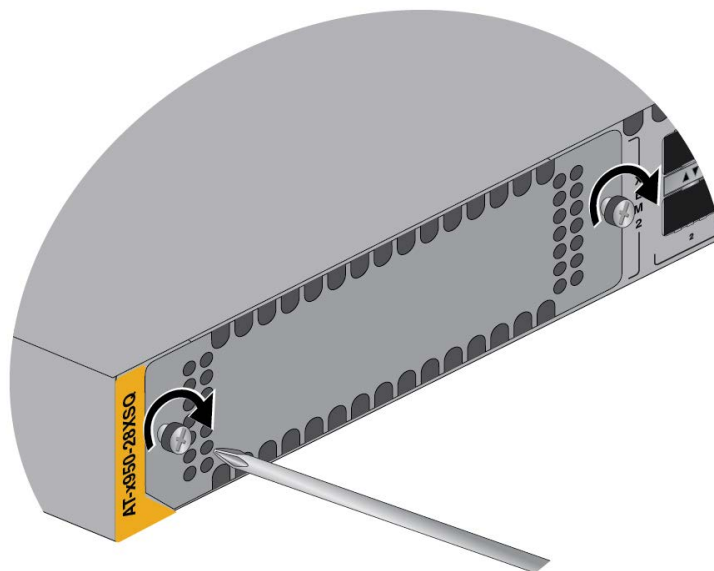

Figure 145. Tightening the Two Screws on the Line Card Blank Panel
10. Tighten the two screws to secure it to the switch. Refer to Figure 145.